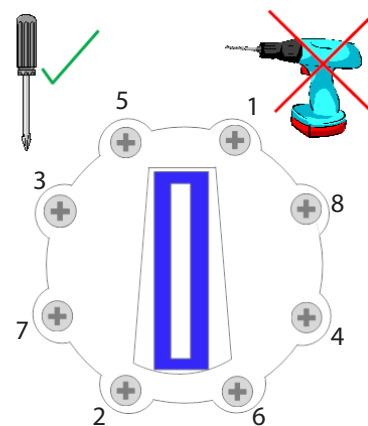

Fig 2.6
8. Using a hand Phillips-head screwdriver, slowly tighten the screws in a diagonal pattern, per the diagonal sequence shown in Fig.2.6. Do not fully tighten one screw before proceeding to the next, i.e., pull them down slowly multiple times to avoid stressing and cracking the lid. Screws should be tightened to a final torque of 25 in./lbs. or 2.8 Nm. Disclaimer: Under no circumstances should the screws in the FlowVis lid assembly or sensor be tightened with an electric screwdriver in the ‘drill’ setting. This can result in a cracked lid or sensor and will void the product warranty.